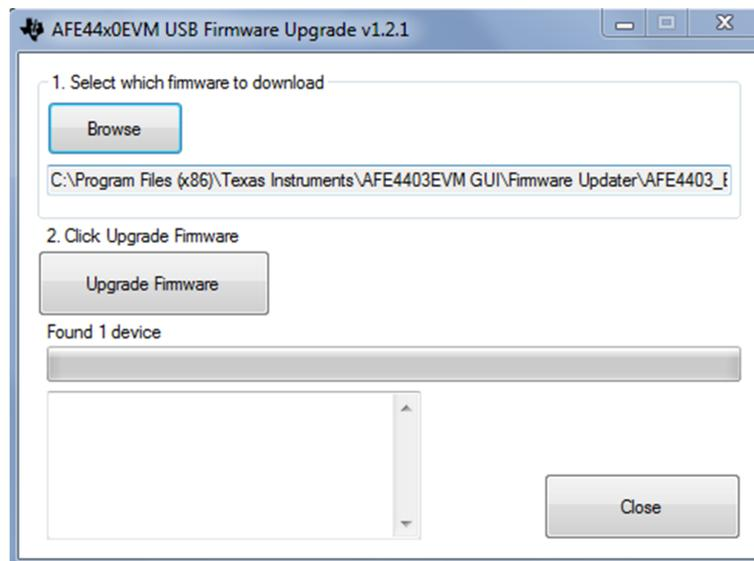

Figure 37. Firmware Loader Application: Found Device
4. Release the SW2 switch when the application displays *Found 1 device*. If the application does not detect the device and displays *No Device Connected*, then repeat step 3. Click on the *Upgrade Firmware* button. (see Figure 37)